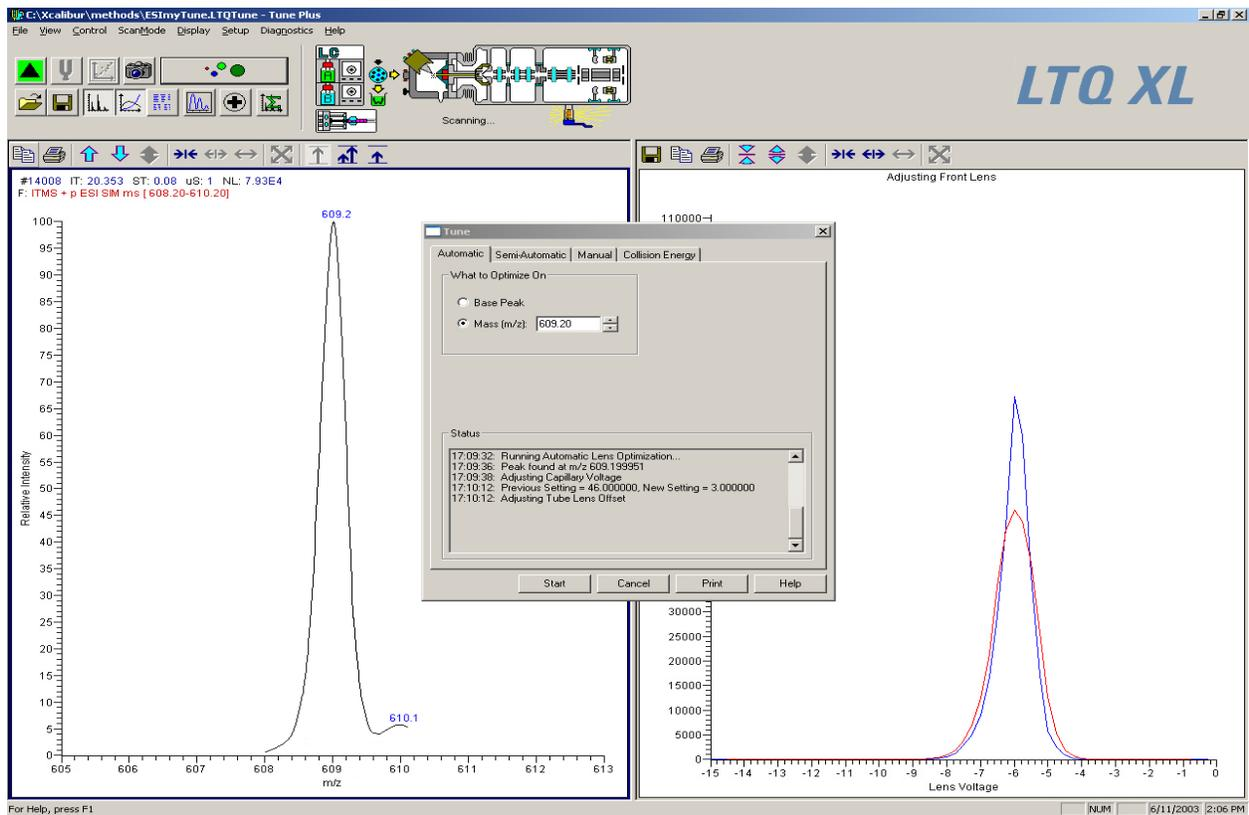

Figure 35. Tune Plus window with the Tune dialog box, showing the Automatic tuning page
8. Observe the Tune Plus window and the Tune dialog box. While automatic tuning is in progress, the LTQ XL MS detector displays various tests in the Spectrum and Graph views in the Tune Plus window and displays various messages in the Status group box in the Tune dialog box. Your Tune Plus window should now look similar to the one shown in Figure 35.